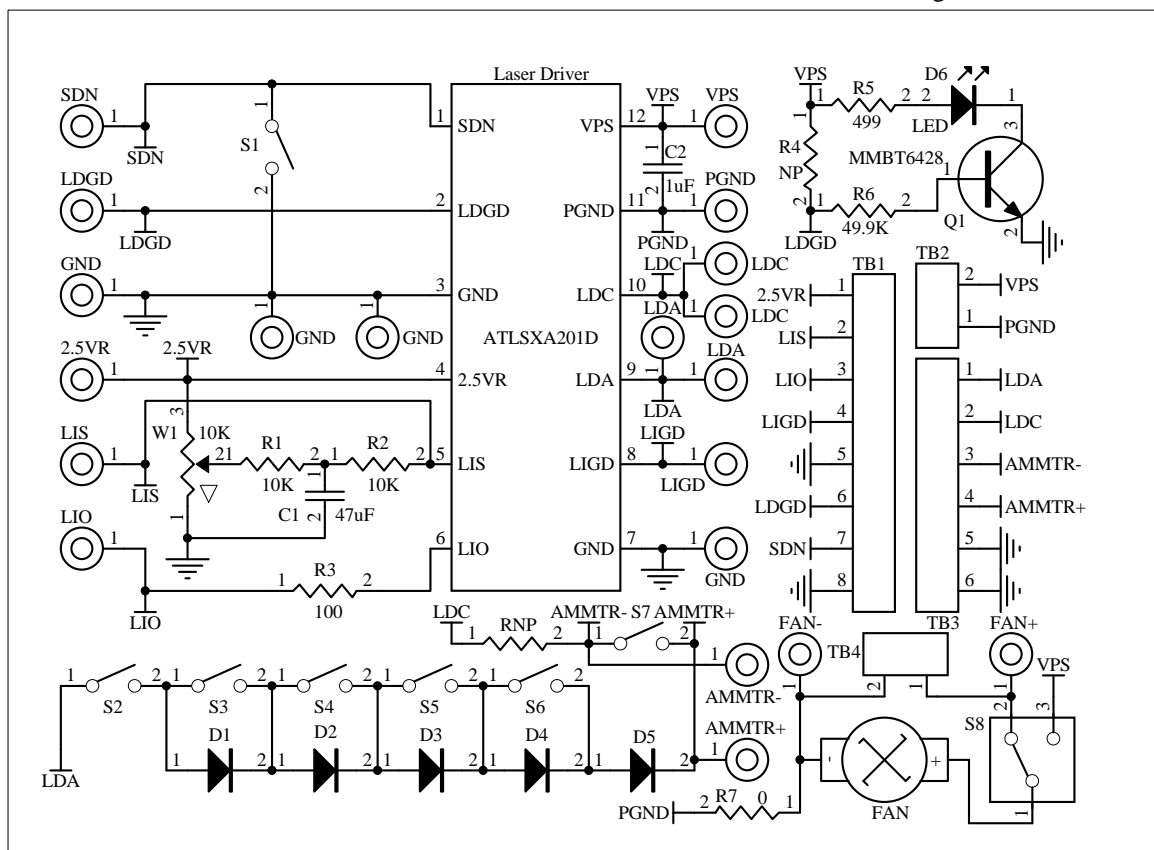

Figure 7. Schematic of Laser Driver ATLS201D Evaluation Board Rev. 1.0
The schematic is shown in Figure 7 below.
- Turn the switch S7 to its lower off position, thus the output current can go through the ammeter and be measured by reading Ammeter's value.; when the switch S7 is placed in the upper on position, the ampere meter is shorted, thus, it does not measure the output current, see the schematic shown in Figure 7.
6. Test the driver with the "dummy laser". The 5 diodes on the board, D1 to D5, can form a "dummy laser" to act as the laser diode in place of a real laser so that in case there is a problem in the circuit, the expensive laser would not be damaged, see schematic in Figure 7. Turn the switch S2 to the on position (upper), to connect the "dummy laser" to the driver. Turning switches S3, S4, S5 and S6, up and down will increase (turning down the switches) and decrease (turning up the switches) the forward voltage of the "dummy laser" which can be measured by a volt meter between the LDA and the ground. Each diode can increase or decrease the output forward voltage by about 0.7V when the output current is 4A. **Warning: when output 4A current, the diodes may get very hot, don't touch them with your fingers.** The switch bank and their corresponding diodes are shown in the table below. The diode D5 is always activated so that the total forward voltage range is from 0.7V to $0.7V + 0.7 \times 4 = 3.5V$. Please be aware of this fact: when the output voltage is low by shorting circuit all the diodes, the driver will consume a lot of power and may get too hot that the internal temperature protection circuit will shut off the driver automatically. When this happens, wait for a few seconds, let the driver cool down, the driver will restart by itself again after the temperature is lowered to certain level. This is the way to calculate the power consumption of the driver: